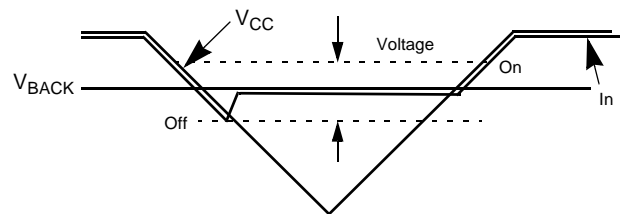

FIGURE 3. POWER CONTROL
**Watchdog/Low Voltage Reset Parameters (See Figures 3 and 4)**